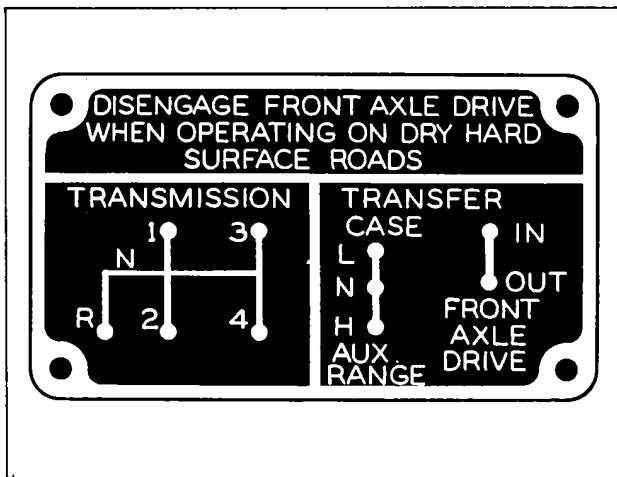

Fig. 2 Transmission and Transfer Case Shifting Arrangement.
- If transfer case shifting lever 28 is in neutral position it should be moved into either "high" or "low" speed (See Fig. 2).
- Move transmission gear shift lever 23 into "first" speed (See Fig. 2.)